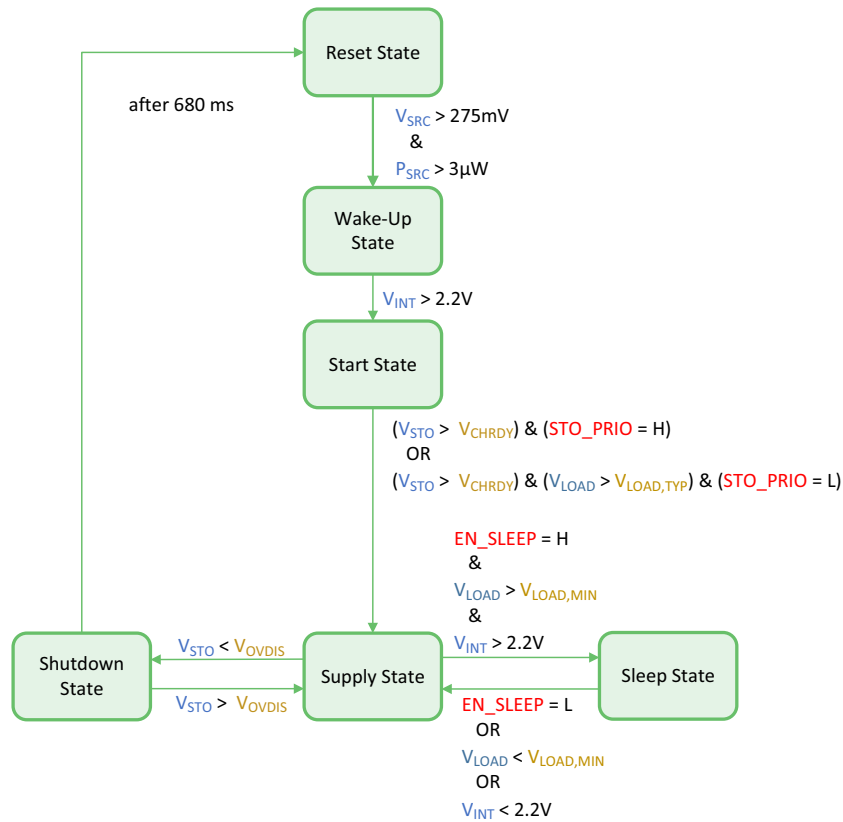

Figure 5: Diagram of the AEM00330 States
- If **EN_SLEEP** is HIGH and conditions (shown on Figure 5) on V_{LOAD} and V_{VINT} are satisfied, the AEM enters **SLEEP STATE** (see section 8.3.4).